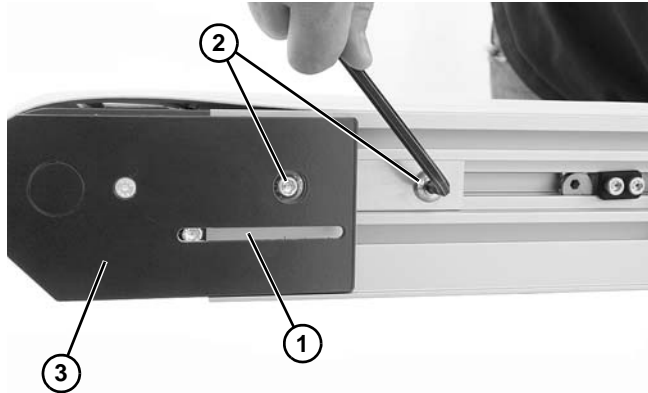

Figure 45
4. On tension end of the conveyor, identified by the pinion access slot (**Figure 45, item 1**), loosen the two tail clamp bolts (**Figure 45, item 2**) on both sides of the conveyor and push head plate assembly (**Figure 45, item 3**) inward.